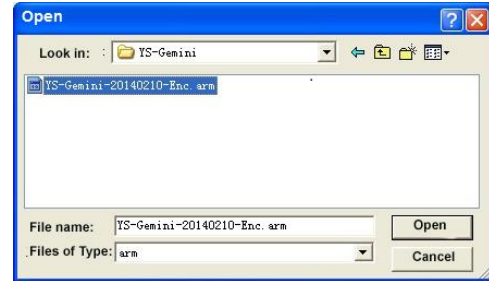

Figure 68
7. Click “Open” and to select the firmware file which will have a “.arm” extension from its stored location on your PC, as shown in Figure 68.